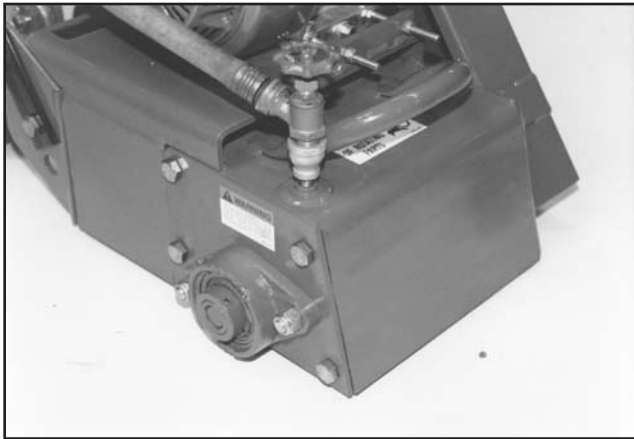

FIGURE 27
b) The Surface Planer is equipped with a 1/4 inch NPT water mist dust control fitting on the main frame. This fitting is provided to allow the installation of a valve and standard garden hose. Water can be regulated by the valve to minimize dust problems when a vacuum is not available or its use not desired. As a general rule, a small volume of water is required. It is not necessary to flood the work surface material. An added benefit is that the water can reduce the amount of heat generated by the planing process and significantly add to flail and bearing service life. FIGURE 27.